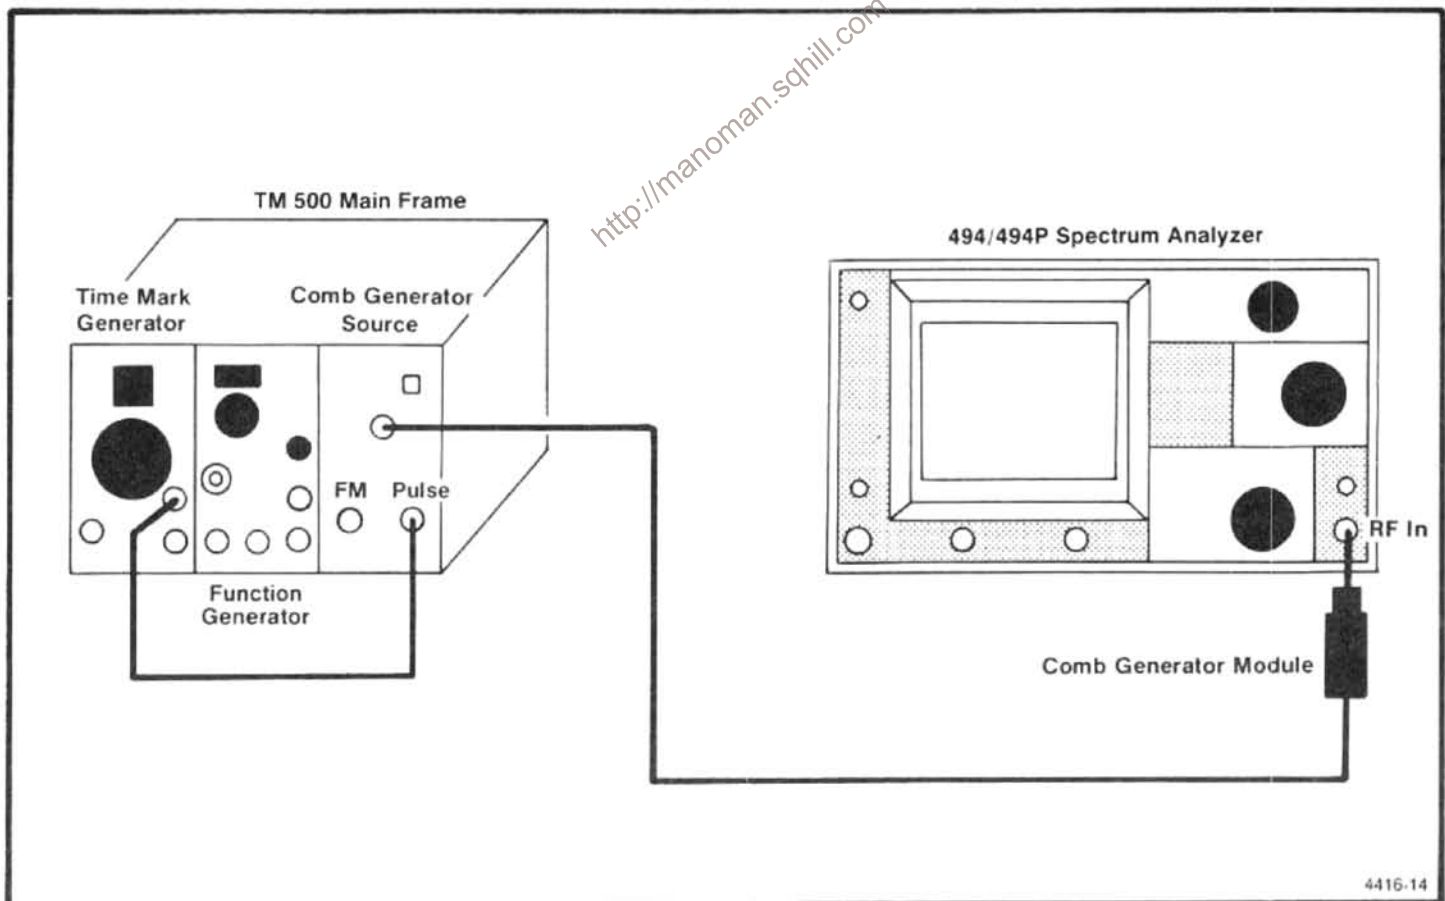

Figure 4-5. Test equipment setup for checking frequency span/div and sweep time/div accuracy.
a. Equipment setup is shown in Figure 4-5.
e. Remove the CAL OUT signal to the RF INPUT and apply the output of the Microwave Comb Generator, as shown in Figure 4-5. Set the FREQUENCY to 10 GHz, (band 4, 5.4 to 18 GHz) FREQ SPAN/DIV to 500 MHz, RESOLUTION BANDWIDTH to 100 kHz, and REF LEVEL to -10 dBm. Peak the response with the MANUAL PEAK control and adjust REF LEVEL for the best marker definition. It may also help to adjust the CENTER FREQUENCY for better marker definition.
h. Modulate the Comb Generator signal with 10 μs markers, from the Time Mark Generator, by applying the Marker Output to the Pulse Input of the Comb Generator as shown in Figure 4-5. Adjust the MANUAL PEAK control for optimum marker definition.